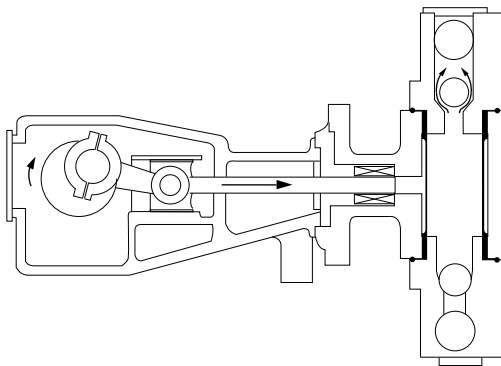

FIGURE 22. Diaphragm Pump
- Figure 22 displays a typical diaphragm pump motivated by a reciprocating plunger.